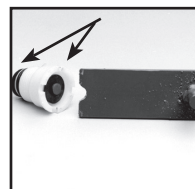

Figure 6
7. Once the valve assembly is removed, the valve plates and O-rings can be replaced. The bottom valve plate is secured into place with a red retaining pin. Push pin into place using needle nose pliers. Figure 6.
Tool for figure 6